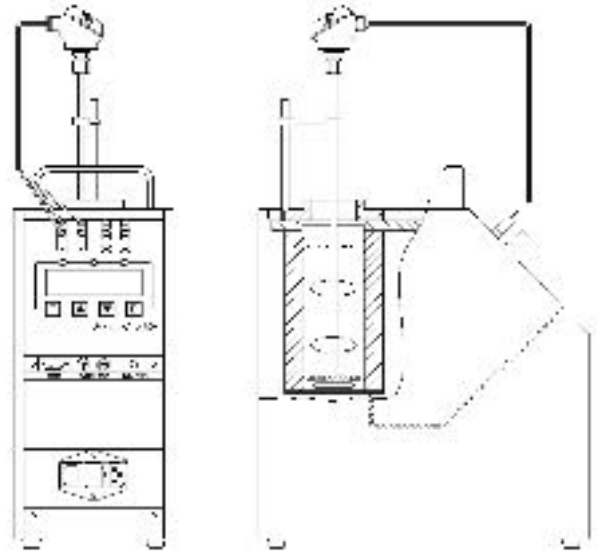

Fig.2
Make reference to the temperature value of the display (7) (fig.2).